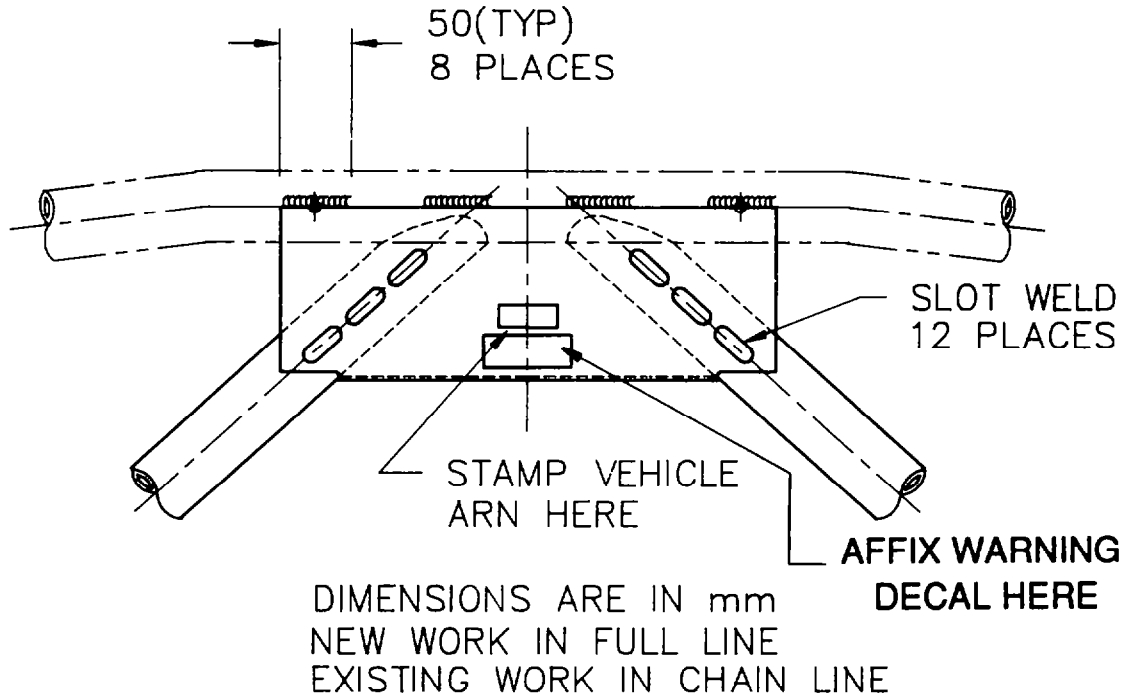

FIG 4 - POSITION AND WELD DIMENSIONS FOR SHEAR PLATE
- y. Mark and weld areas as shown in Fig 4 (Qty 8-50 mm welds and 12 slot welds).
- ai. Using 1/4 inch metal stamps, clearly mark the vehicle ARN on the rear of the shear plate as detailed in Fig 4.
- aj. Fit warning decal (Item 1k from Table 1) as shown in Fig 4.